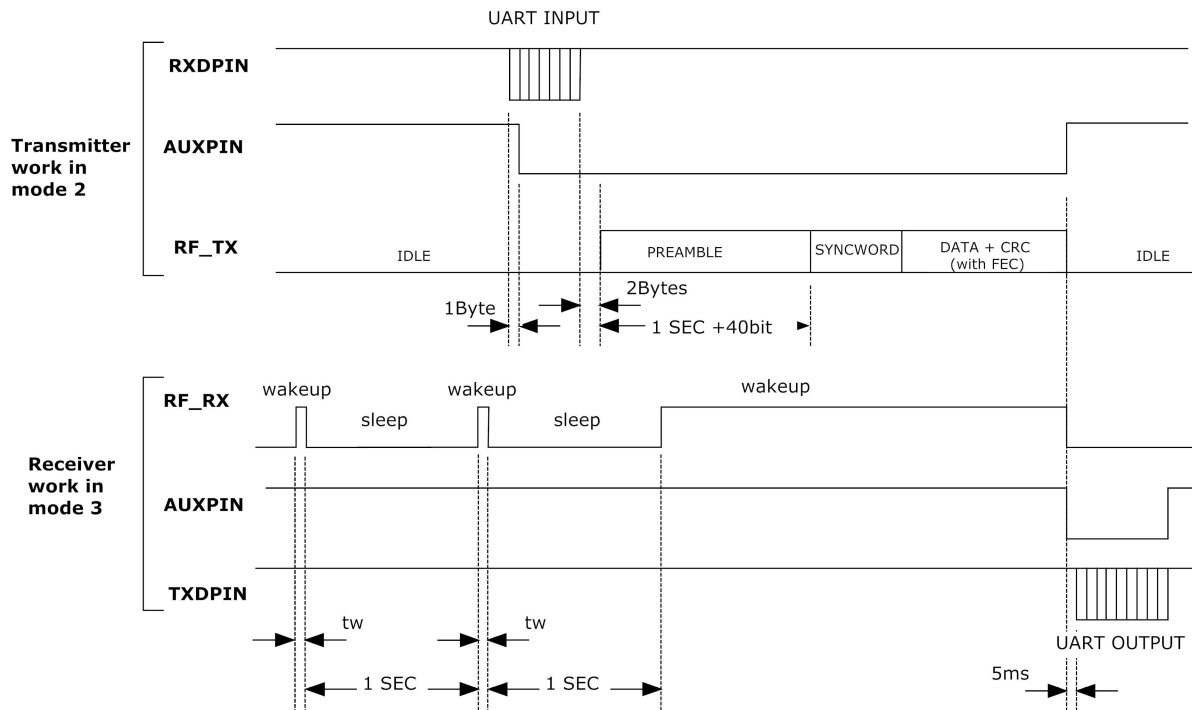

Figure 3: Schematic diagram of transmitting in mode 2 state and receiving in mode 3 state
The function of the preamble is to synchronize the target receiver clock with the transmitter. In normal mode, the length of the preamble is generally 8 symbol bits. For example, when working in the power saving mode, the preamble can also wake up the receiver. The transmitter must send a longer preamble to wake up the receiver in power saving mode and enter the normal working state. If the receiver is set to wake up every 1 second, then the receiver will wake up every 1 second to search for the preamble (tw), and the duration is generally less than 2 symbol bits. The transmitter first transmits the preamble for more than 1 second and then transmits the synchronization code after it, which means that during the wake-up period of the receiver, as long as the preamble is found in the channel, it can successfully detect and wake up reception under normal circumstances. The schematic diagram is shown in Figure 3.
A) Transmitting: After the module RXD pin inputs the first byte, the module sets AUX low and starts to judge the level of SET\_B. After the RXD pin receives the last byte, wait for 2-3Bytes. If there is no data input, Then the module sets the AUX pin high and switches to the transmitting state, and then the length of the preamble is sent as a wake-up period (such as 1 second) plus the synchronization code, etc. After the transmission is completed, it turns to the corresponding state according to the level of SET\_A and SET\_B, and the schematic diagram of transmission See Figure 3.
The serial port is in the closed state, the receiver turns on after a wake-up period (such as 1 second) and searches for the preamble in the channel. If not, it sleeps and waits for the next wake-up period before being awakened. If there is a preamble, it continues to receive. At the same time, monitor the preamble and wait for the synchronization code to arrive before receiving the data. After deinterleaving error correction and error detection to confirm that the data is correct, set AUX low to wake up the lower computer, wait for 5ms and then open the serial port and output the data. After the serial port output ends, close the serial port and set AUX high. If the mode setting is not changed, it will enter the immediate sleep state again and wait for the next wake-up cycle. The reception diagram of this mode is shown in Figure 3.